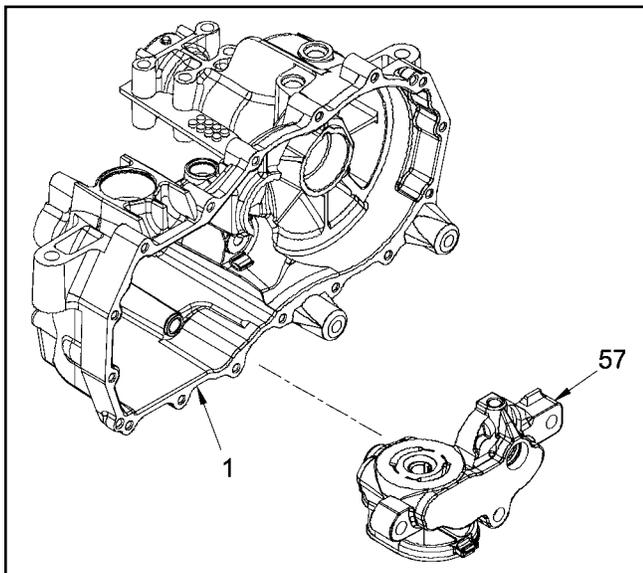
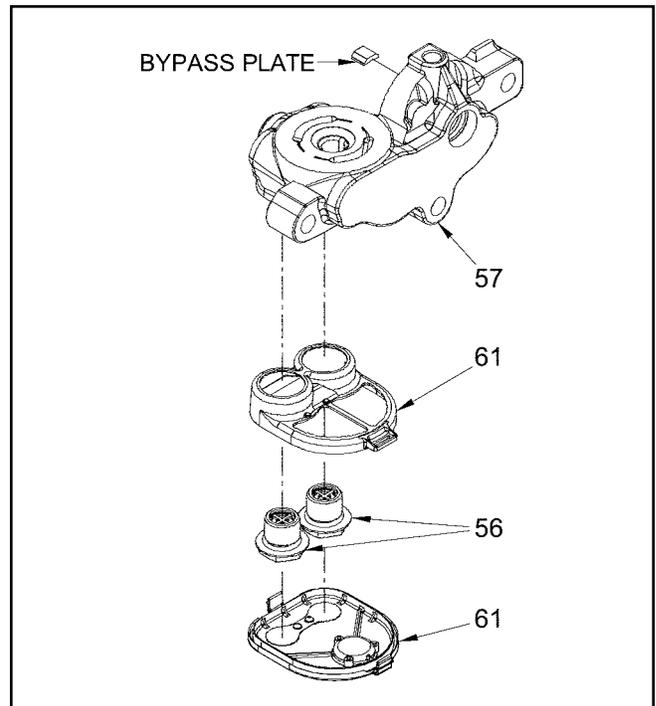
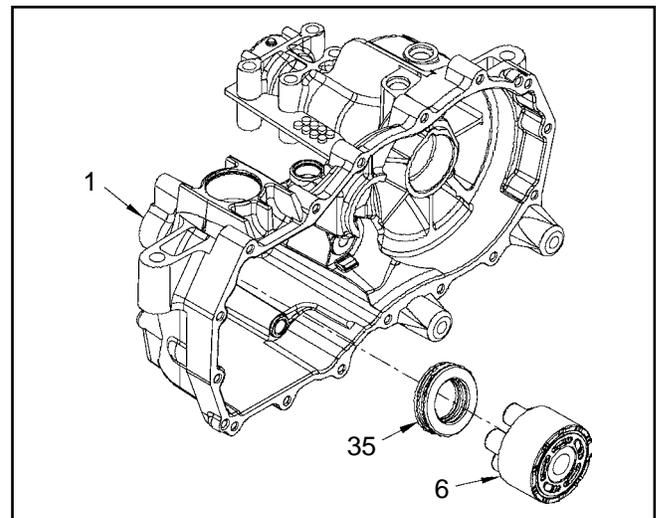

Figure 19.
Figure 20.
Figure 21.
13. Remove the center section and filter assembly (57, Figure 19). NOTE: Bypass plate (Figure 20) may slide out of the center section.
15. Note the location of both check plugs (56) before removal for correct replacement during reassembly. Remove and inspect the check plug assemblies (56) for debris or damage.
16. Remove the filter base (61) and discard it. NOTE: The filter base is included in the filter kit to be installed during reassembly of the unit.
17. **(See Figure 21)** Remove the motor cylinder block assembly (6) from the housing (1).
18. Disassemble the motor cylinder block assembly (4). Check each piston for proper operation by pressing the pistons in and releasing them in the block bore. Disassemble the motor cylinder block. Check for piston/block wear in the cylinder bore. Inspect the pistons, piston springs and thrust washers for excessive wear or damage. NOTE: Thrust washers may be held in place in the piston by residual oil.
1. **(See Figure 21)** Turn the housing (1) so the motor thrust bearing cavity is facing up. This will assist in the installation of the motor thrust bearing assembly (35) keeping it in the bearing cavity during installation of the center section assembly (57, Figure 19).
2. Insert the thrust bearing (35) in the housing (1). NOTE: Place the thin race of the bearing towards the housing bearing cavity. The thick race must face the pistons.
3. **(See Figure 20)** Install the new filter base (61) onto the center section (57).
4. It will be necessary to clean the check plugs prior to re-assembly. Install the check plugs (56), in their correct location, into the center section (57). Tighten the check plugs according to Table 6.
5. Align the tabs on the filter cover with the slots in the filter base and carefully press the cover onto the base until the tabs snap into place. Insure the bypass plate (Figure 20) is located properly in the center section.